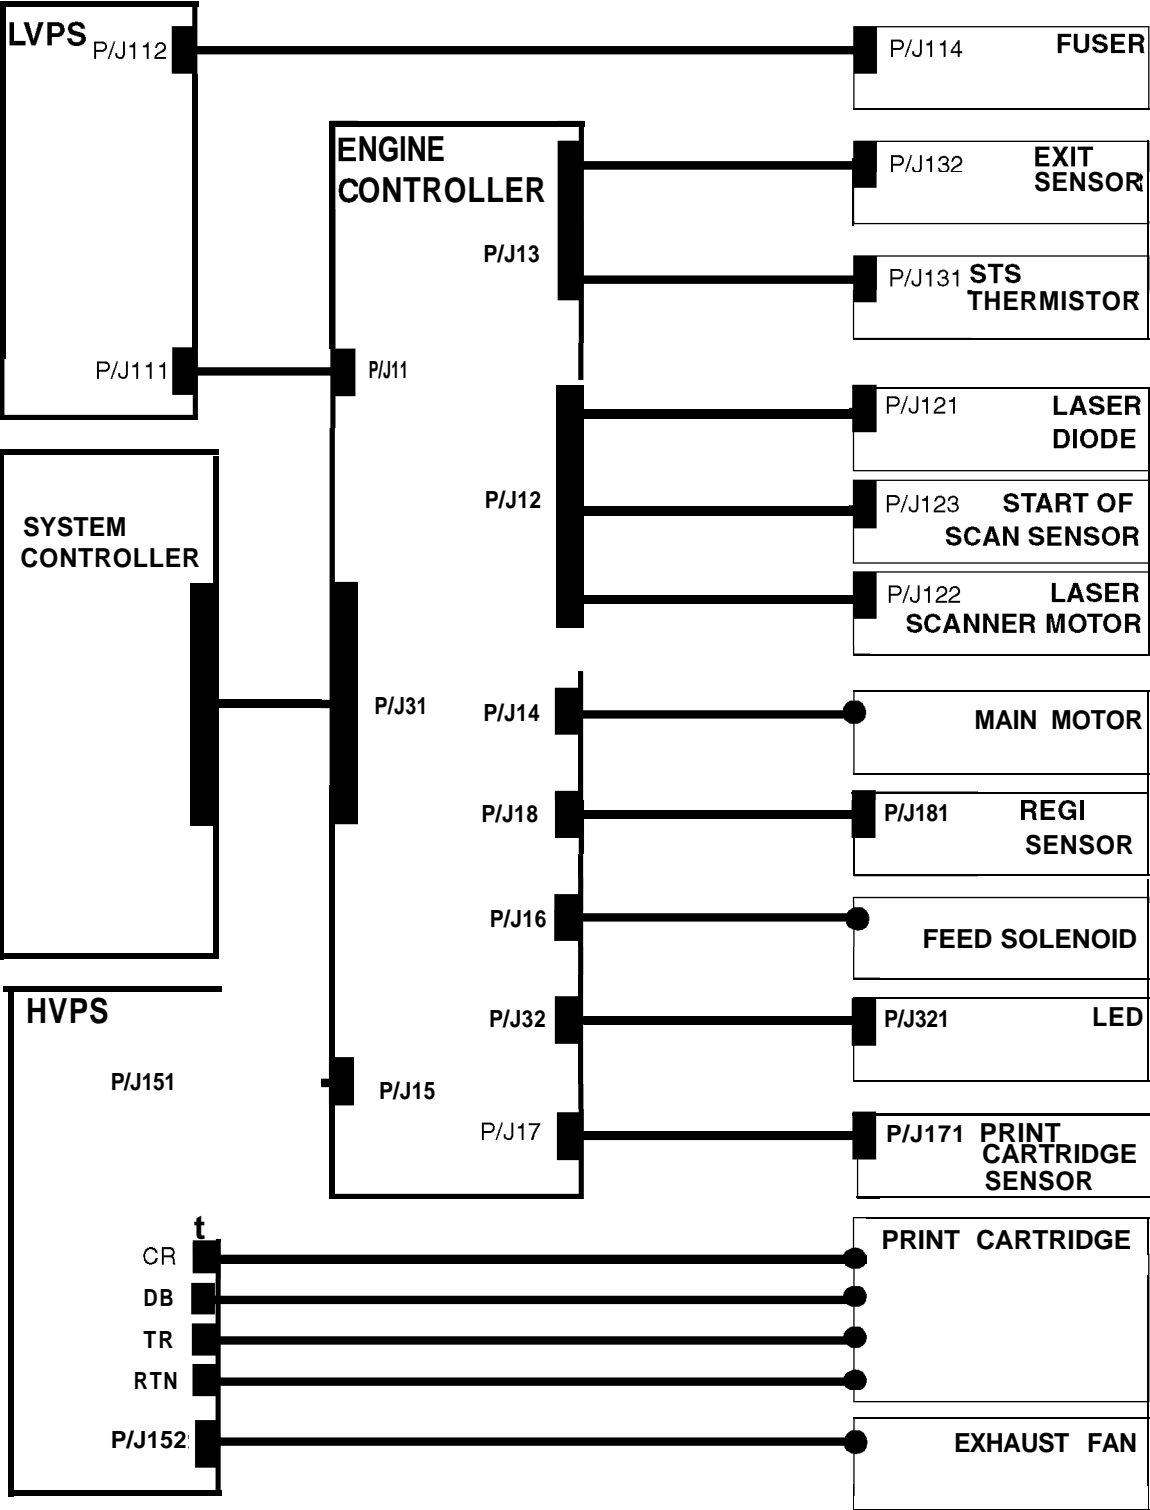

**Figure B-7. Removing the Engine Controller PWBA**
3. Disconnect the LVPS to Engine Controller Harness from the PWBA by pressing down on the bar and lifting the harness out of the connector (Figure B-7).
4. Remove the 2 screws securing the Engine Controller PWBA (Figure B-7).